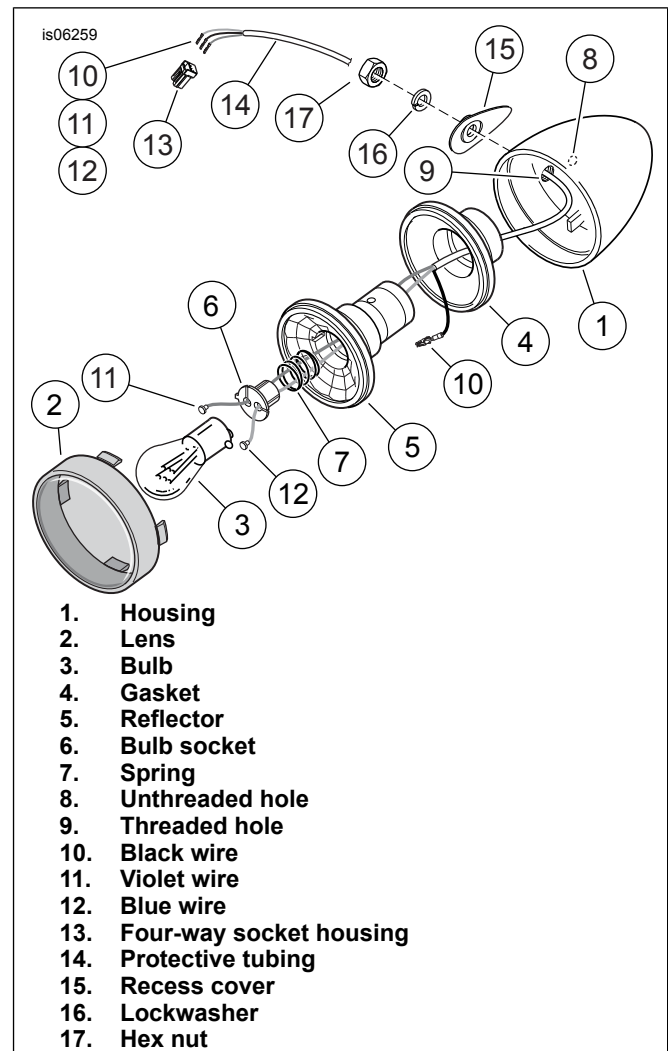

Figure 3. Stop/Tail/Turn Signal Lamp
2. See Figure 3. Remove the black (10), violet (11) and blue (12) wires and socket terminals from the STT socket housings (13). Set the STT lamps and socket housings aside for later installation.
8. See Figure 3. Insert a thin-blade screwdriver or similar tool into the slot at the bottom of the lens (2) of one of the STT lamps, and twist to unsnap the lens from the housing (1). Push the bulb (3) in and rotate counterclockwise to remove.
14. See Figure 3. Thread the wires from the threaded stud on the STT relocation weldment through the **threaded** hole (9) in the lamp housing (1) and the center of the rubber gasket (4).
4. See Figure 3. Remove the black (10), violet (11) and blue (12) wires and socket terminals from the stop/turn signal socket housings. Set the stop/turn signal lamps and socket housings aside for later installation.
6. Strip about 25 mm (1 in) of insulation from the unterminated end of **one** wire, and tie a fish tape or mechanics' wire to the stripped end. Feed the wire into one of the threaded studs on the STT relocation weldment. Push the wire past the Y-joint until the end of the fish tape or mechanics' wire comes out through the forward opening (E) of the tube. Continue pulling and pushing the wires until the insulated wire end is exposed. Remove the fish tape or mechanics' wire from the insulated wire end.
9. See Figure 3. Insert a thin-blade screwdriver or similar tool into the slot at the bottom of the lens (2) of one of the stop/turn signal lamps, and twist to unsnap the lens from the housing (1). Push the bulb (3) in and rotate counterclockwise to remove.
10. Insert the tool between the outer edge of the rubber gasket (4) and the inside of the housing. Gently pry up the reflector (5) until free.
11. Remove the ground terminal and black wire (10) from the back of the reflector.
15. See Figure 3. Thread the wires from the threaded stud on the stop/turn signal relocation weldment through the **threaded** hole (9) in the lamp housing (1) and the center of the rubber gasket (4).